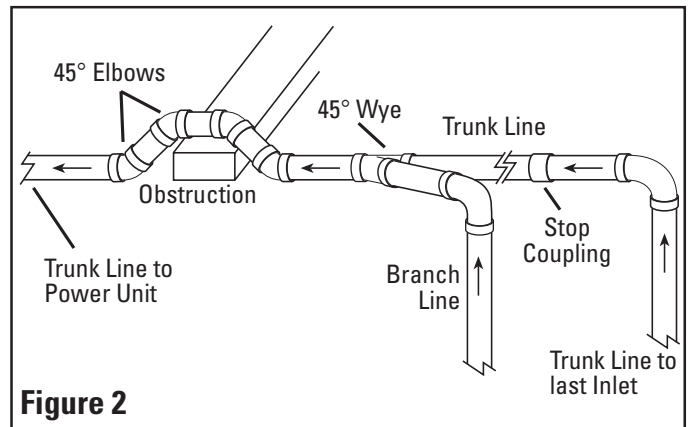

Figure 2
- The tubing system will include a main trunk line that will flow from the furthest wall inlet back to the power unit and can be run through the basement or the attic (**Figure 2**). The trunk line should be kept as straight as possible to maximize the unit performance. When elbows are needed 45° fittings should be used or if a 90° connection is required, a sweep elbow should be used.